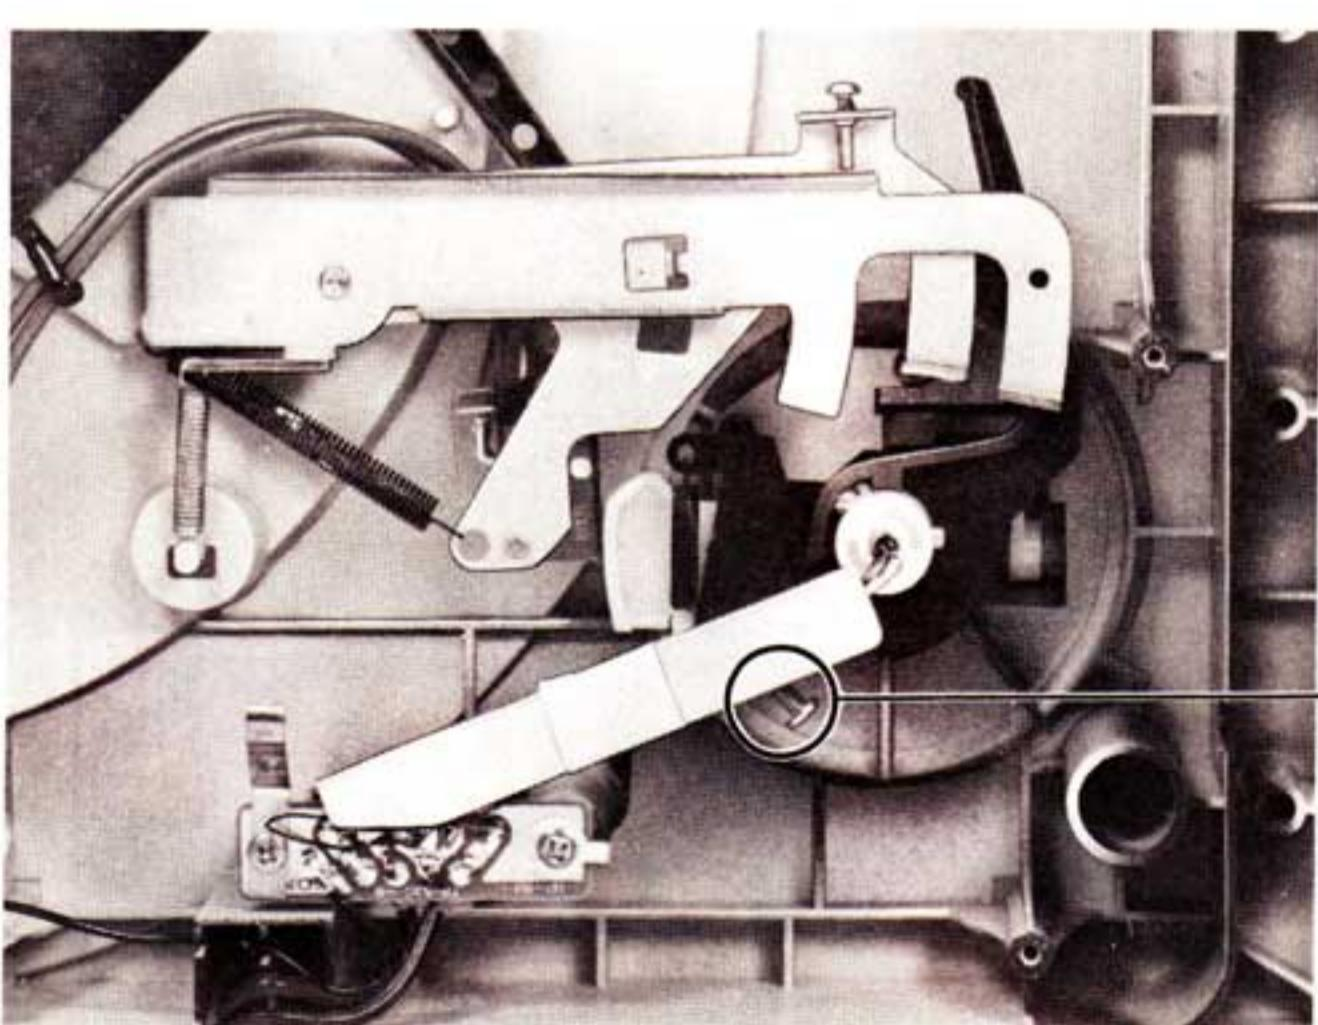

Fig. 6-5
4. Turn the adjustment screw in Fig. 6-5 so that the portion shown by *1 of the center gear contacts the portion shown by *2 of the clutch A as shown in Fig. 6-4B.